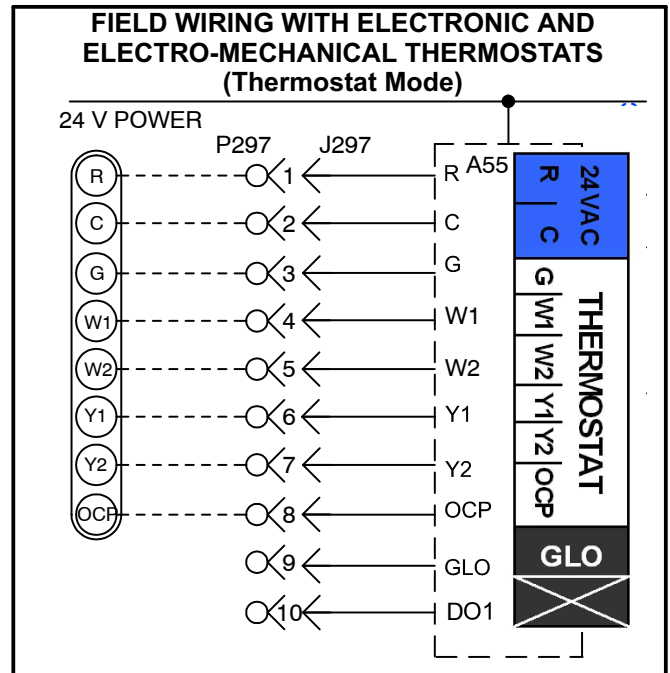
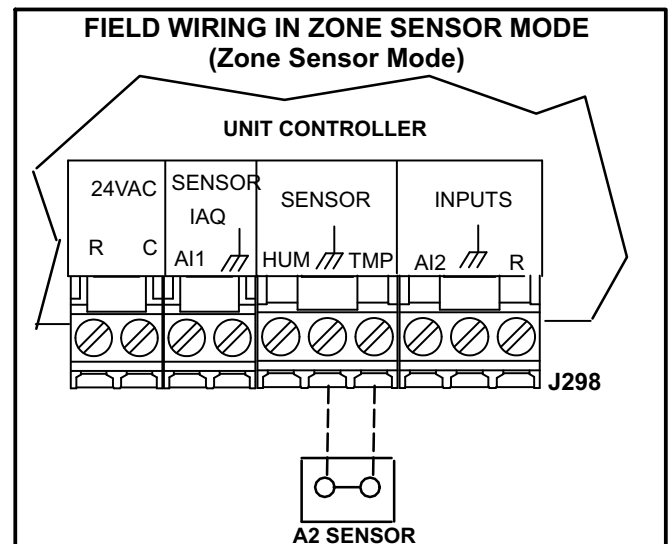
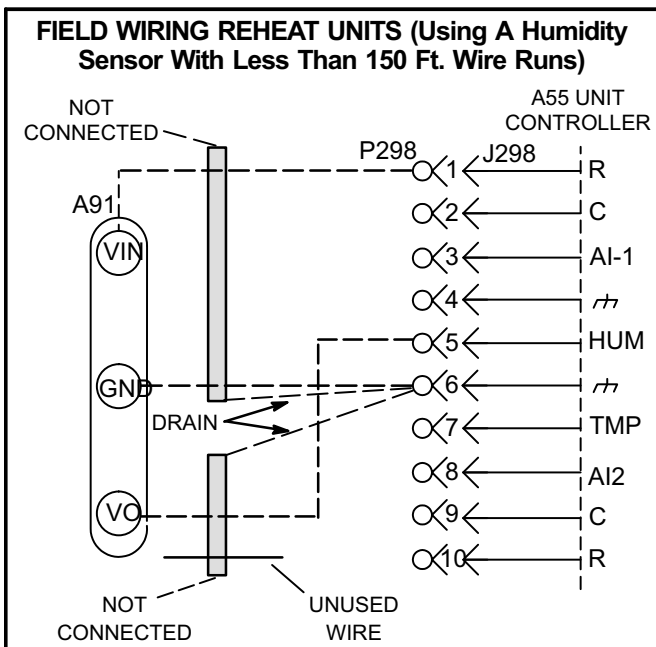

FIGURE 9
FIGURE 10
FIGURE 11
provided with thermostat. See figure 9 for field wiring and refer to wiring diagrams on unit.
The Unit Controller will operate heating and cooling based on the Unit Controller internal setpoints and the temperature from the A2 zone sensor. An optional Network Control Panel (NCP) can also be used to provide setpoints. A thermostat or return air sensor can be used as a back-up mode. Make zone sensor wiring connections as shown in figure 10.
- 2- Make wiring connections as shown in figure 9 for Thermostat Mode and figure 10 for Zone Sensor Mode. In addition, connect either a humidity sensor or a dehumidification input. See figure 11 or 12 for humidity sensor wiring and figure 13 for dehumidification input wiring.
Use two separate shielded cables containing 20AWG minimum, twisted pair conductors with overall shield. Belden type 8762 or 88760 (plenum) or equivalent. Connect both cable shield drain wires to TB1-7 as shown in figure 11.
Use two separate shielded cables containing 18AWG minimum, twisted pair conductors with overall shield. Belden type 8760 or 88760 (plenum) or equivalent. Connect both cable shield drain wires to TB1-7 as shown in figure 11.